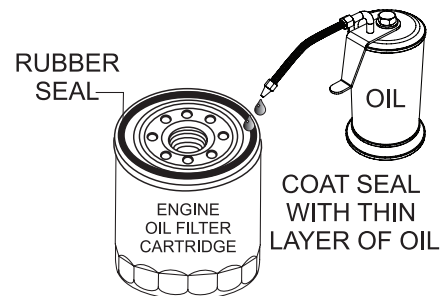

Figure 47. Oil Filter Gasket
2. Coat the **rubber seal** (gasket) surface of the new oil filter with clean **15W-40 engine oil** (Figure 47).